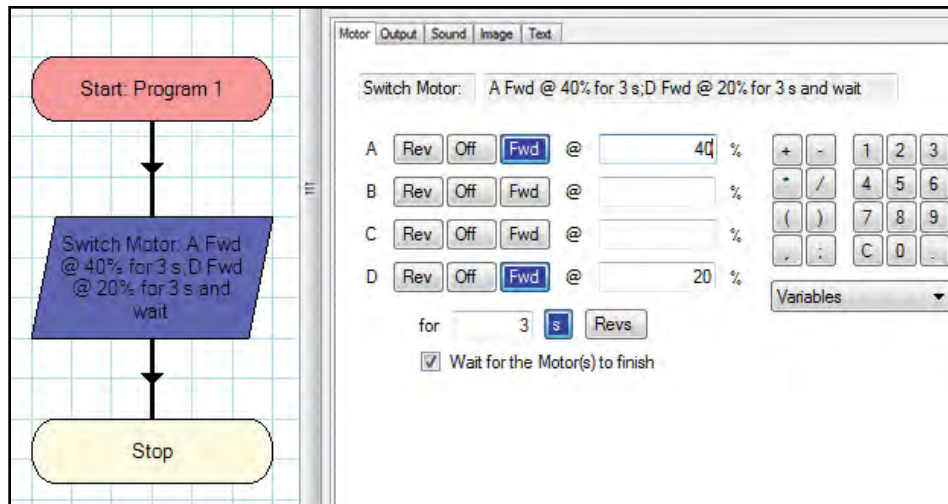

Figure 4: Arc Turn Right.
- **Arc Turn Right** – Both motors turn the same direction, but the right motor is powered less than the left. This arrangement will cause the model to turn in an arc to the right. Challenge students to explore what happens to the size of the turn when larger or smaller power differences are used. *NOTE: Adjustments to the duration (in seconds) need to be made to keep the right turn approximately 90°, and not have the model turn 180° or spin in a circle. Figure 4 shows an example of the Arc Turn Right.*
**Teacher's Note:** To program the model to turn left, students will use information similar to the data in Figures 4 & 5 except they will reverse the motor directions and power settings for motors A and D.